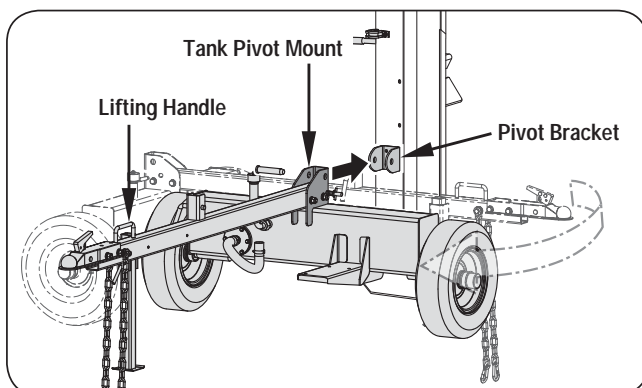

Figure 8a
1. Make sure a helper holds on to the beam to keep it from falling. Reposition the beam and reservoir so the back of the tank is facing the vertical beam as shown in *Figure 8a*.